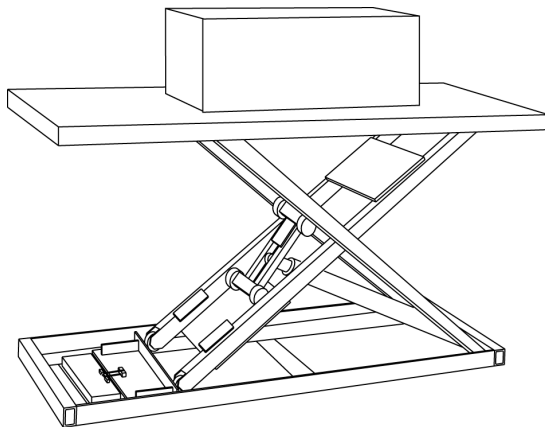

Figure 2 – Center the Load
- If you are lifting pipes or other objects which may be able to roll or move, fasten them down, or chock them in place. (Fig. 2,3)